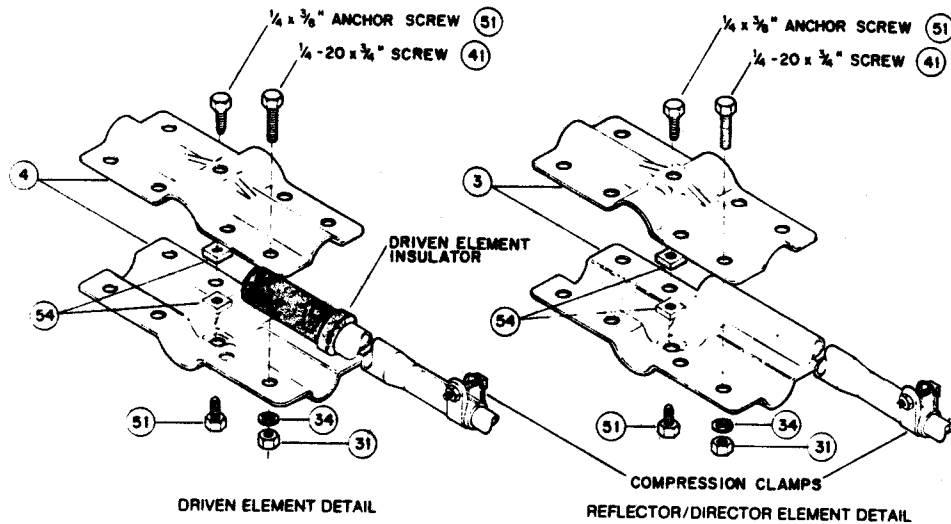

Figure 4. Element-to-Boom Brackets
- () Select the set of large element-to-boom brackets (item 4) and loosely assemble as shown in Figure 4.
- () Select the remaining four sets of element-to-boom brackets (item 3) and loosely assemble as shown in Figure 4.
() Select the DE1 section of tubing. Slip the unslotted end of DE 1 into a Driven Element insulator as shown in Figure 4. Slip the insulated end of DE1 into the bracket assembly on the boom. Tighten the screws to hold the element securely in the center of the bracket at this time.